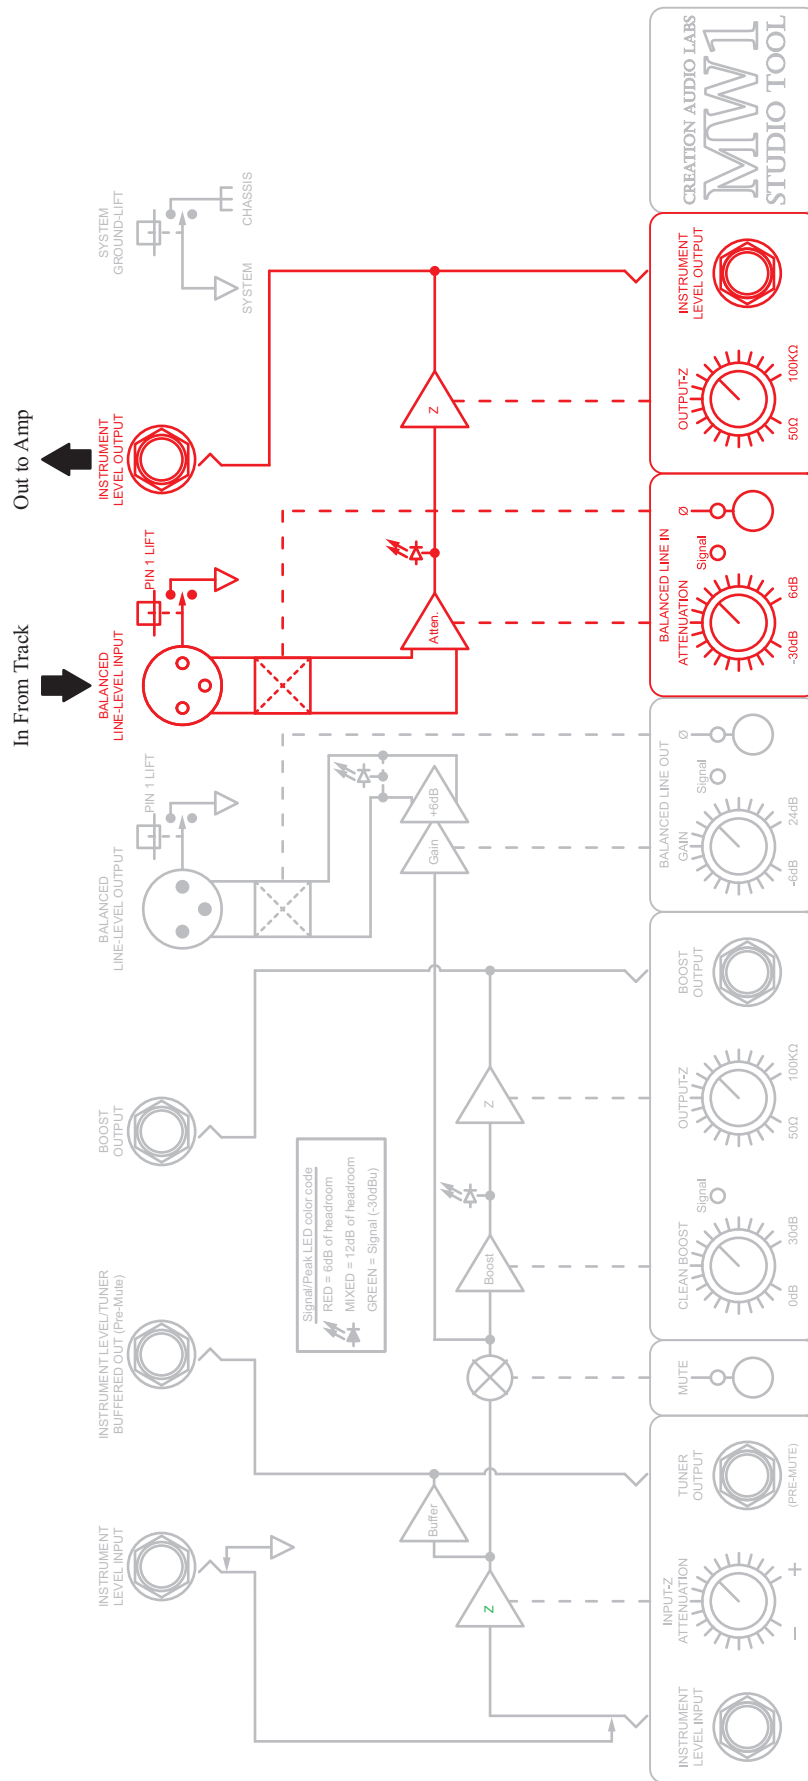

FIG. 5
- Re-amplification of pre-recorded tracks. (Fig. 5 & Fig. 9)
- Record tracks at low volume using plug-ins, DI, interfaces, or small amps, then re-amplify at high volumes when appropriate. (Fig. 5)